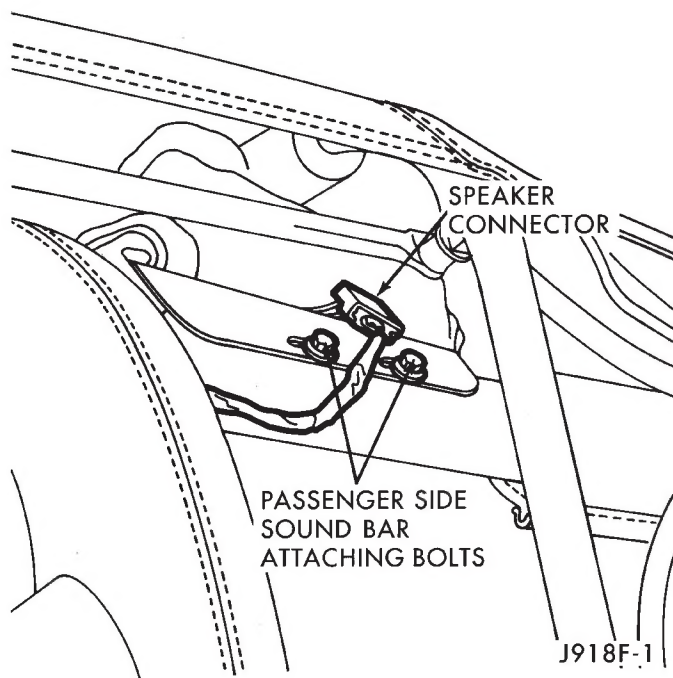
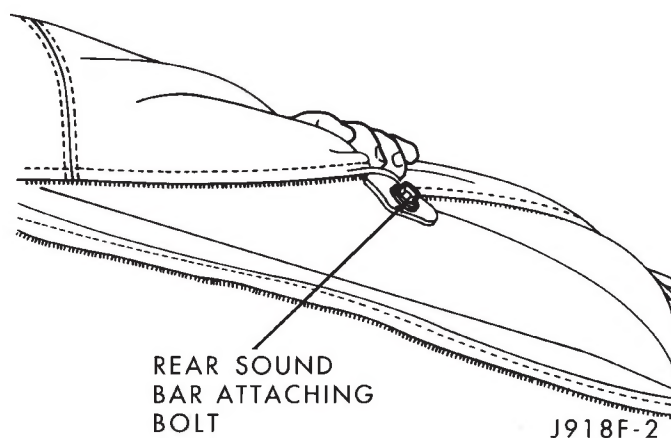

Fig. 19 Sound Bar Speaker Connector - YJ
Fig. 20 Sound Bar Attaching Bolt - YJ
- (1) Pull sound bar padding away from bar on the passenger side (Fig. 19).
- (2) Disconnect speaker harness connector located on the passenger side at the sound bar.
(1) Disconnect speaker harness connector located on the passenger side at the sound bar (Fig. 19)
(2) Remove bolts attaching the sound bar side flanges to the right and left side bars.
(3) Open zipper on sport bar cover.
(4) Remove bolts attaching the sound bar brackets to the sport bar (located on the rear of the sport bar) (Fig. 20). Slip brackets through the sport bar cover.
(5) Reverse removal procedures to install.